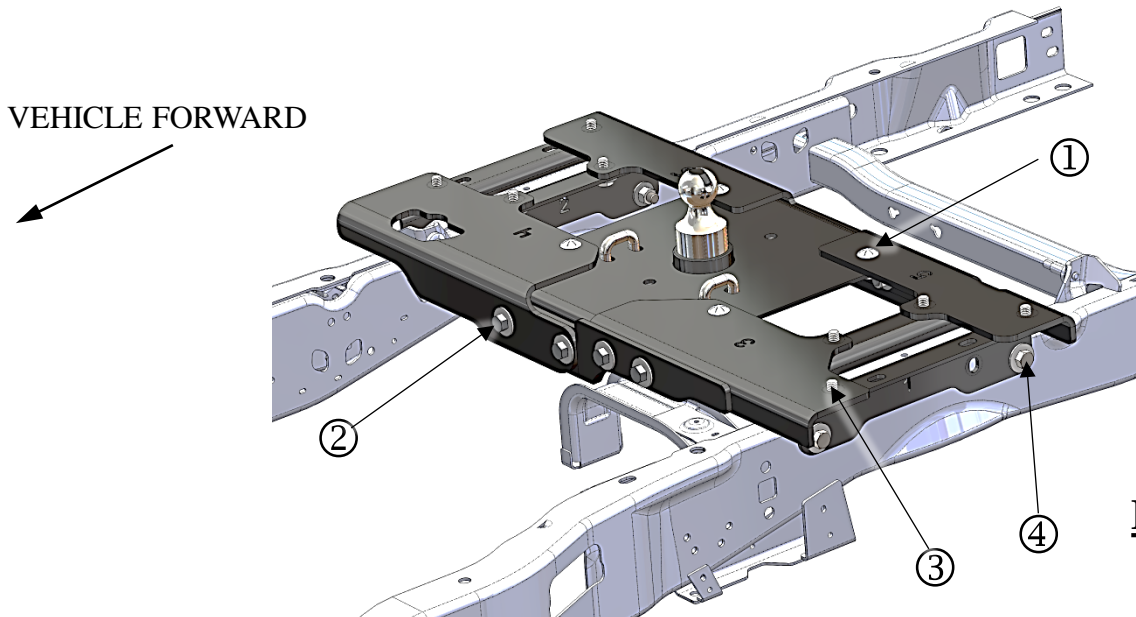

FIGURE 7
FASTENER TORQUE SEQUENCE - FIGURES 7 & 8
1. Torque all fasteners in the following order- **Figure 7**